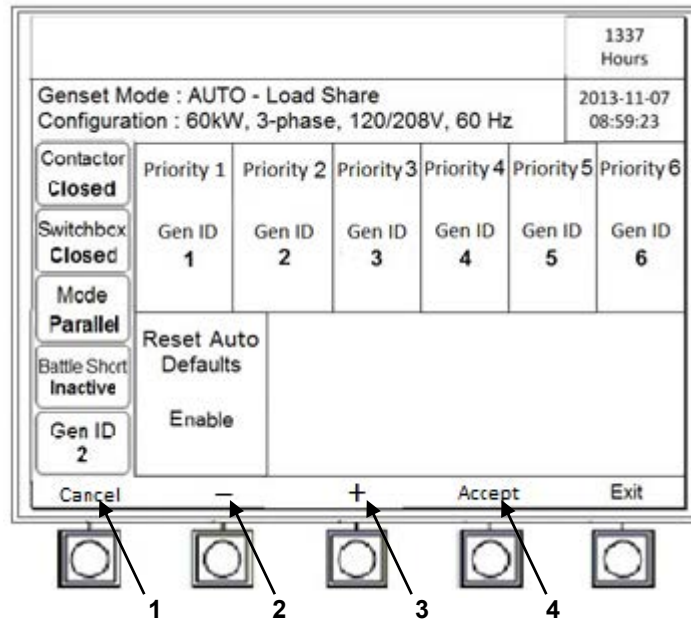

Figure 4-12. Fixed Priority Select Screen
- z. If [Reset Auto Defaults] was selected and restoring defaults is desired, press [Accept] (figure 4-12, item 4). If restoring defaults is not desired, press [Cancel] (figure 4-12, item 1).
- aa. Press [+] (Figure 4-12, Item 3) or [-] (figure 4-12, item 2) to adjust parameter.
- bb. Once parameter is adjusted, press [Accept] (figure 4-12, item 4).
- dd. Press [Exit] (figure 4-12, item 5) to return to [Auto Mode Main Screen] screen.